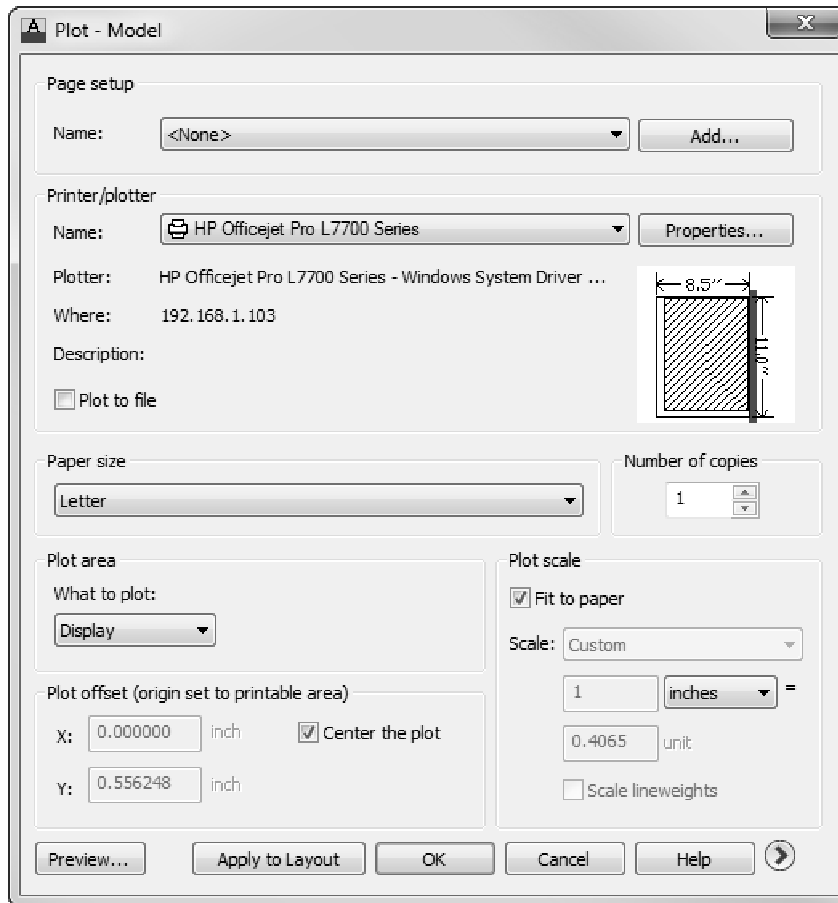

FIGURE 2-5.1 Plot Dialog Box; basic options
You are now in the *Plot* dialog box. This is where you tell AutoCAD what printer or plotter to use, what scale and what size paper, to name a few examples (Figure 2-5.1).
4. Make the following adjustments (Figure 2-5.1):
5. Click the “more options” arrow in the lower right corner of the *Plot* dialog box (Figure 2-5.1).